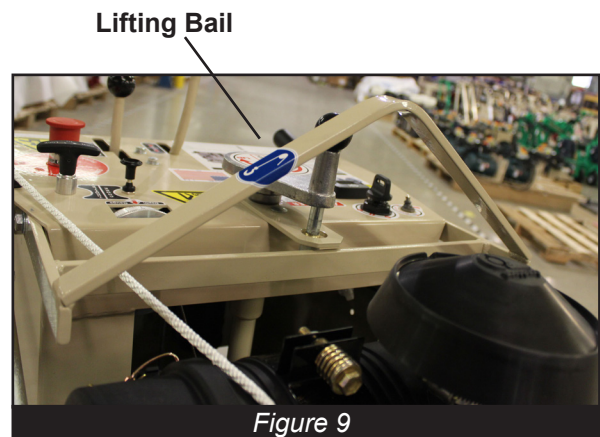

Figure 9
- If lifting this machine, use the built in lifting bail. (Figure 9) Use proper lifting equipment and techniques.